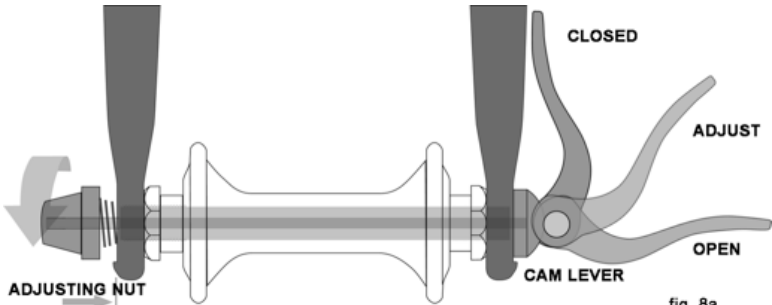
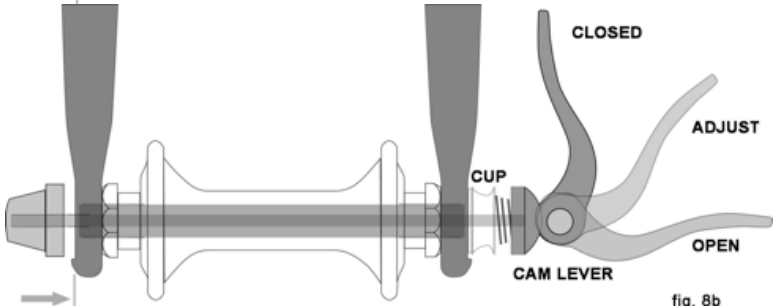

fig. 8a
fig. 8b
There are currently two types of over-center cam wheel retention mechanisms: the traditional over-center cam (fig. 8a) and the cam-and-cup system (fig. 8b). Both use an over-center cam action to clamp the bike's wheel in place. Your bicycle may have a cam-and-cup front wheel retention system and a traditional rear wheel cam action system.
### a. Adjusting the traditional cam action mechanism (fig. 8a)
#### **b. Adjusting the cam-and-cup mechanism (fig. 8b)**
(2) If your bike has cam action front wheel retention, move the cam lever from the locked or CLOSED position to the OPEN position (figs. 8a & b). If your bike has through bolt or bolt-on front wheel retention, loosen the fastener(s) a few turns counter-clockwise using an appropriate wrench, lock key or the integral lever.
(3) If your front fork has a clip-on type secondary retention device, disengage it. If your front fork has an integral secondary retention device, and a traditional cam action system (fig. 8a) loosen the tension adjusting nut enough to allow removing the wheel from the dropouts. If your front wheel uses a cam-and-cup system, (fig. 8b) squeeze the cup and cam lever together while removing the wheel. No rotation of any part is necessary with the cam-and-cup system.
(1) If your bike has cam action front wheel retention, move the cam lever so that it curves away from the wheel (fig. 8b). This is the OPEN position. If your bike has through bolt or bolt-on front wheel retention, go to the next step.
(2) With the steering fork facing forward, insert the wheel between the fork blades so that the axle seats firmly at the top of the fork dropouts. The cam lever, if there is one, should be on rider's left side of the bicycle (fig. 8a & b). If your bike has a clip-on type secondary retention device, engage it.
(3) If you have a traditional cam action mechanism: holding the cam lever in the ADJUST position with your right hand, tighten the tension adjusting nut with your left hand until it is finger tight against the fork dropout (fig. 8a). If you have a cam-and-cup system: the nut and cup (fig. 8b) will have snapped into the recessed area of the fork dropouts and no adjustment should be required.
(4) While pushing the wheel firmly to the top of the slots in the fork dropouts, and at the same time centering the wheel rim in the fork
(a) With a cam action system, move the cam lever upwards and swing it into the CLOSED position (fig. 8a & b). The lever should now be parallel to the fork blade and curved toward the wheel. To apply enough clamping force, you should have to wrap your fingers around the fork blade for leverage, and the lever should leave a clear imprint in the palm of your hand.
(3) On a derailleur gear system, pull the derailleur body back with your right hand.
(4) With a cam action mechanism, move the quick-release lever to the OPEN position (fig. 8b). With a through bolt or bolt on mechanism, loosen the fastener(s) with an appropriate wrench, lock lever or integral lever; then push the wheel forward far enough to be able to remove the chain from the rear sprocket.
(5) Lift the rear wheel off the ground a few inches and remove it from the rear dropouts.
Some bikes are equipped with a cam action seat post binder. The seat post cam action binder works exactly like the traditional wheel cam action fastener (Section 4.A.2). While a cam action binder looks like a long bolt with a lever on one end and a nut on the other, the binder uses an over-center cam action to firmly clamp the seat post (see fig. 8a).